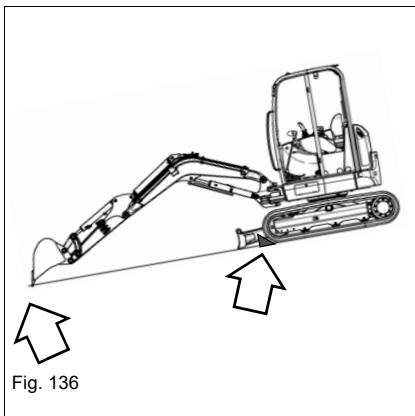

Fig. 136
- Secure the vehicle with wheel chocks (see Fig. 136).